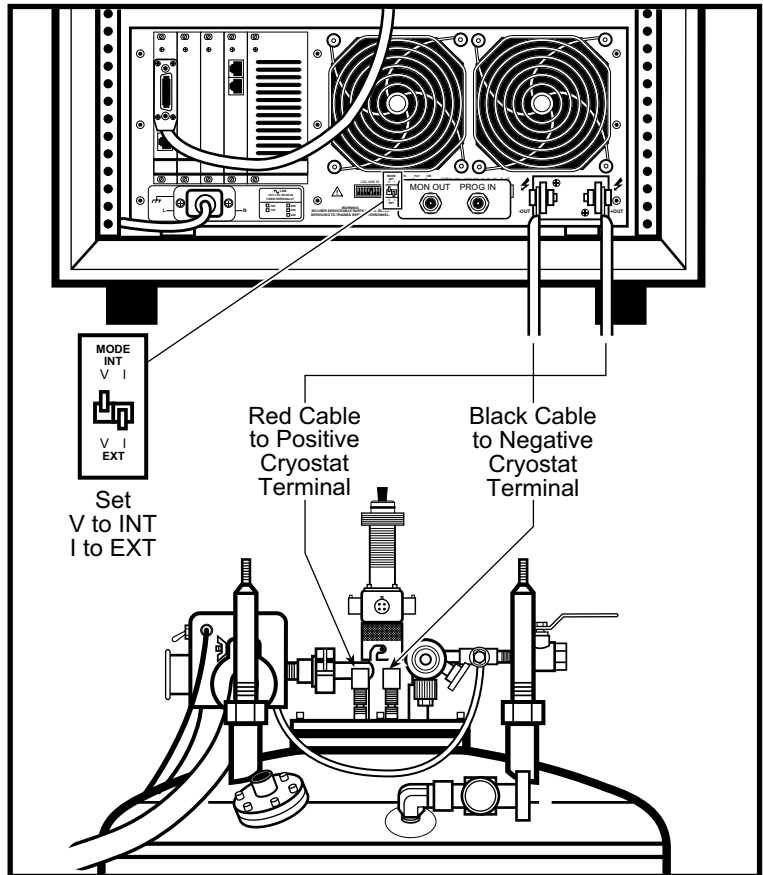

Figure 3-11 Connecting MPS to Superconducting Magnet Terminals
20. Connect the Magnet Power Supply (MPS) Terminal Cables to the MPS terminals. Red = positive, Black = negative. Connect the other ends of the magnet terminals on top of the cryostat (Figure 3-11). Just to the left of the MON OUT port are two small switches labeled V and I (voltage and current). Set V to INT and I to EXT. Turn on the MPS.